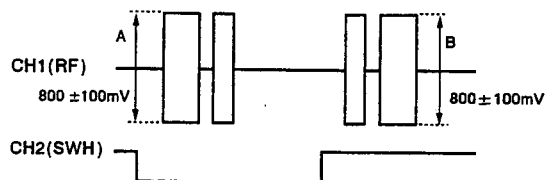

Fig. 6-6
- 3). Adjust trimmer resistor R410 so that levels A and B of the output waveform (1.57 MHz) are $800 \pm 100 \text{ mV}$, as shown in Fig. 6-6. At this time, if the difference in output level between A and B is too great for both of them to fall within the standard range, match the higher to the standard value.